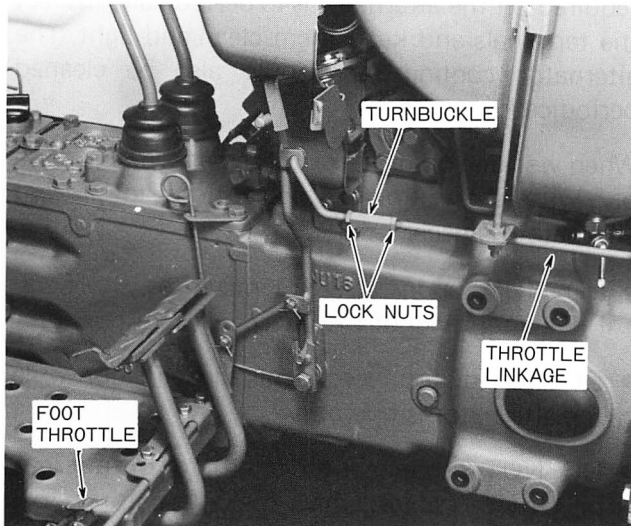

Figure 54 – Throttle Adjustment
1. Loosen the lock nuts, Figure 54.